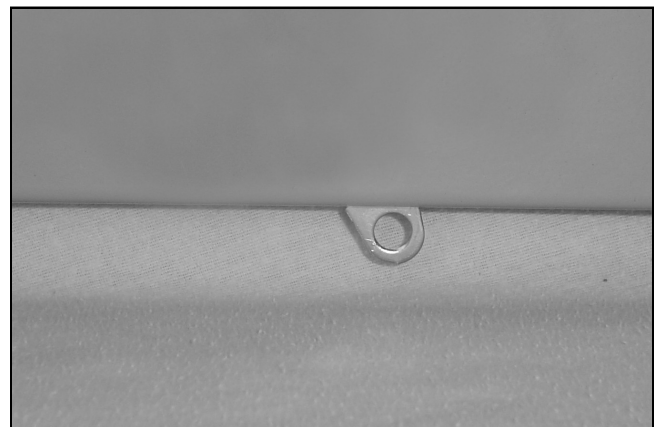

Figure 14. Location of the Door Latch.
Step 1: Depress the padlockable catch at the bottom of the door and slide the door downward (see Figure 14). Open the door.